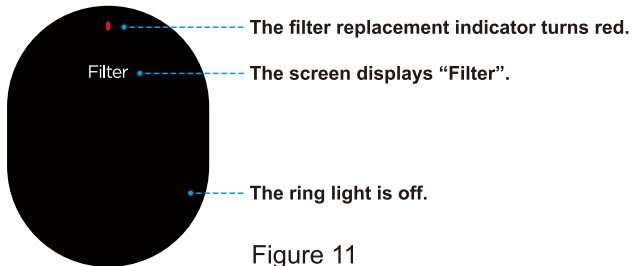

Figure 11
- If the filter has expired, the ring light will be off. Also, the filter replacement indicator will turn red and the screen will display “Filter” after flashing 3 times (Figure 11).